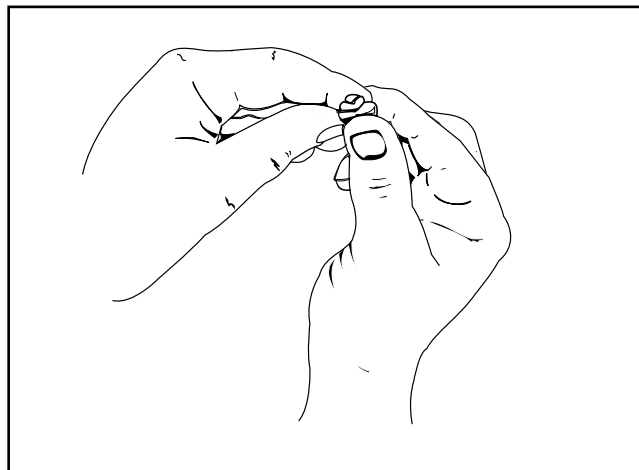

Fig. 27
5. Squeeze the filter to spread the oil (Fig. 27).